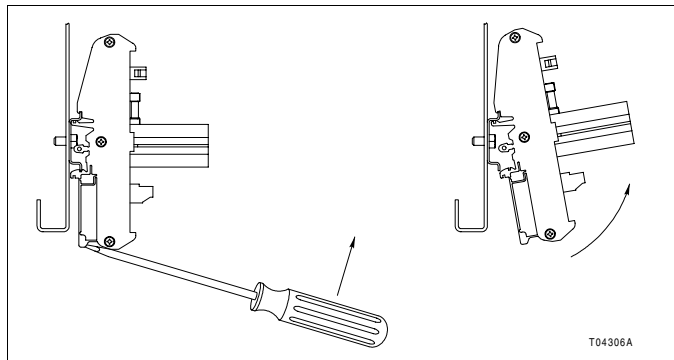

Figure PR12-1. Power System Assembly Removal
1. Insert the screwdriver as shown in Figure PR12-1.